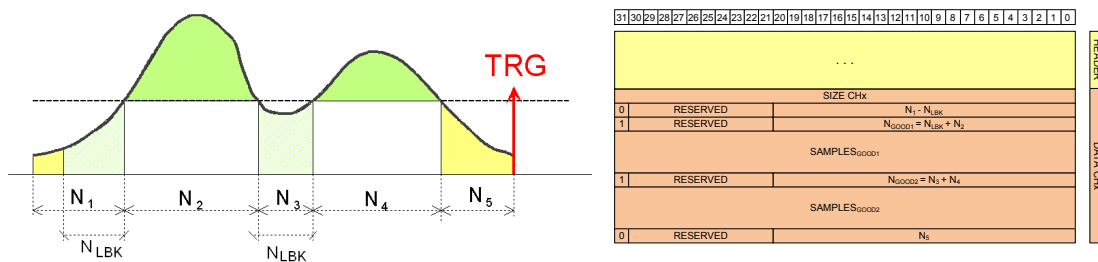

Fig. 8.12: Example with positive logic and $N_{L BK}$ overlapping with N_3 .
3. Consider the case where $N_{L BK}$ overlaps with N_3 ($N_3 \leq N_{L BK} < N_1$) and $N_{L FWD} = 0$. In this case all samples of N_3 are tagged as good and acquired. See for example Fig. 8.12. The same happens in case $N_{L BK} = 0$ and $N_3 \leq N_{L FWD} < N_5$.